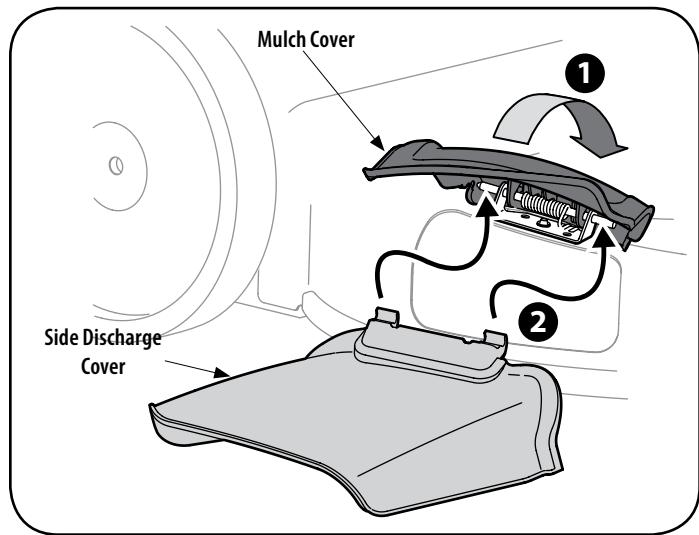

Figure 8
1. On the side of the mower, lift the mulch cover. See Figure 8.